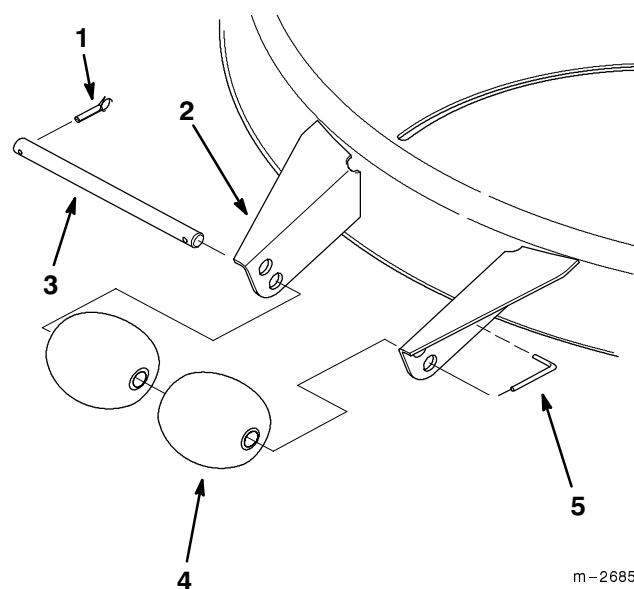

Figure 13
1. Remove the cotter pin from the roller shaft (Fig. 13).
2. Slide the roller shaft out of the bracket holes (Fig. 13).
3. Align the two front rollers with the top holes in the brackets, then reinstall the roller shaft (Fig. 13).
4. Reinstall the cotter pin into the roller shaft. Make sure the special L-shaped pin is installed through the roller shaft, and into the hole in the bracket (Fig. 13).